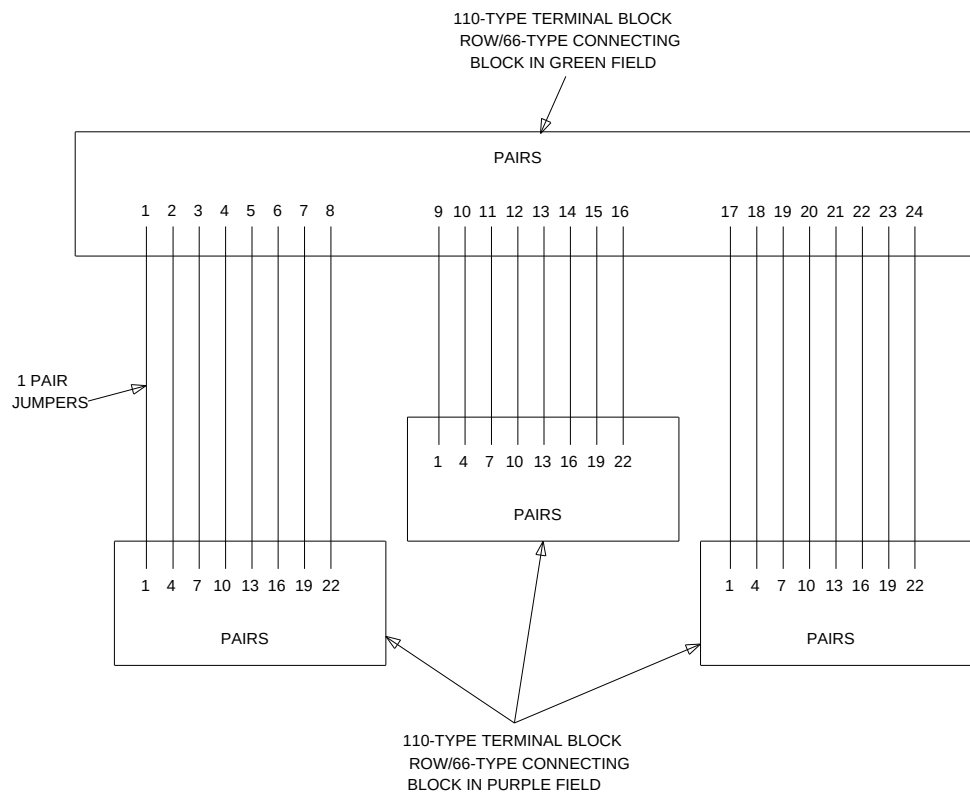
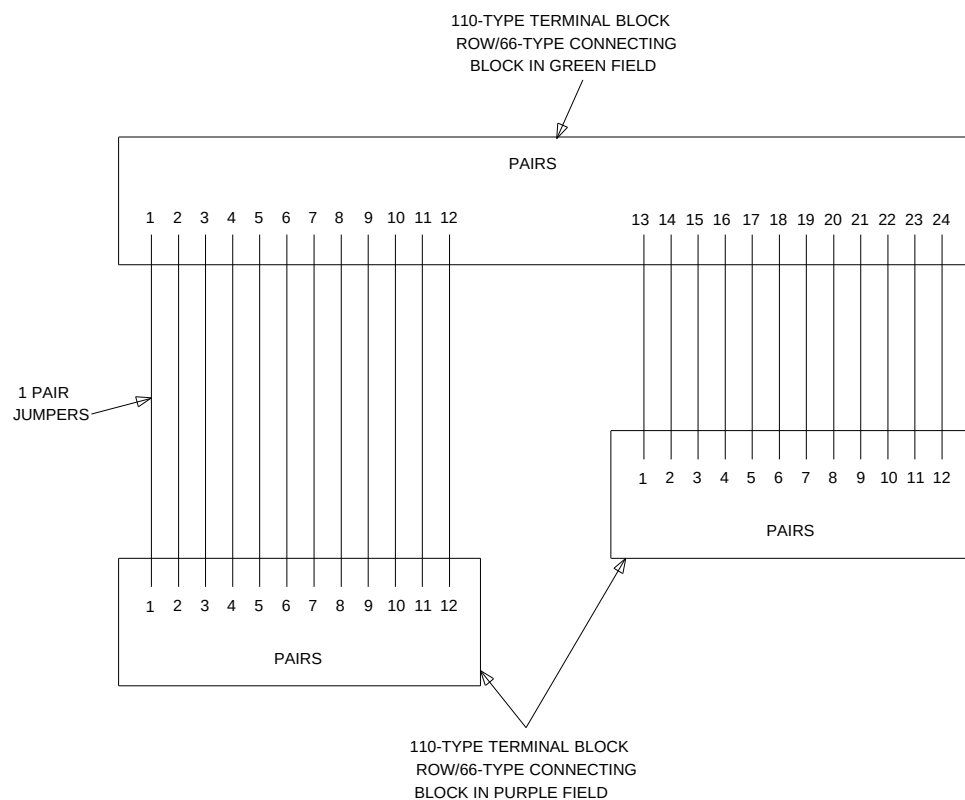

Figure 9-51. Example of Establishing 3-Pair Modularity for Trunk Pairs Used for 1-Pair Trunk Circuits; DID, Loop Start, Ground Start
Figure 9-52. Example of Establishing 3-Pair Modularity for Trunk Pairs Used for 3-Pair Tie Trunks
Figures 9-51 and 9-52 show trunk pairs connected to the switch cabinet with jumper wires to establish 3-pair modularity. To connect the trunk pairs to the purple field, proceed as follows:
3. Connect 1-pair patch cords/jumper wires from each 110-type terminal block row/66-type connecting block in the green field to the 110-type terminal block rows/66-type connecting blocks in the purple field as shown in Figure 9-51 for 1-pair CO trunks or in Figure 9-52 for 3-pair tie trunks.